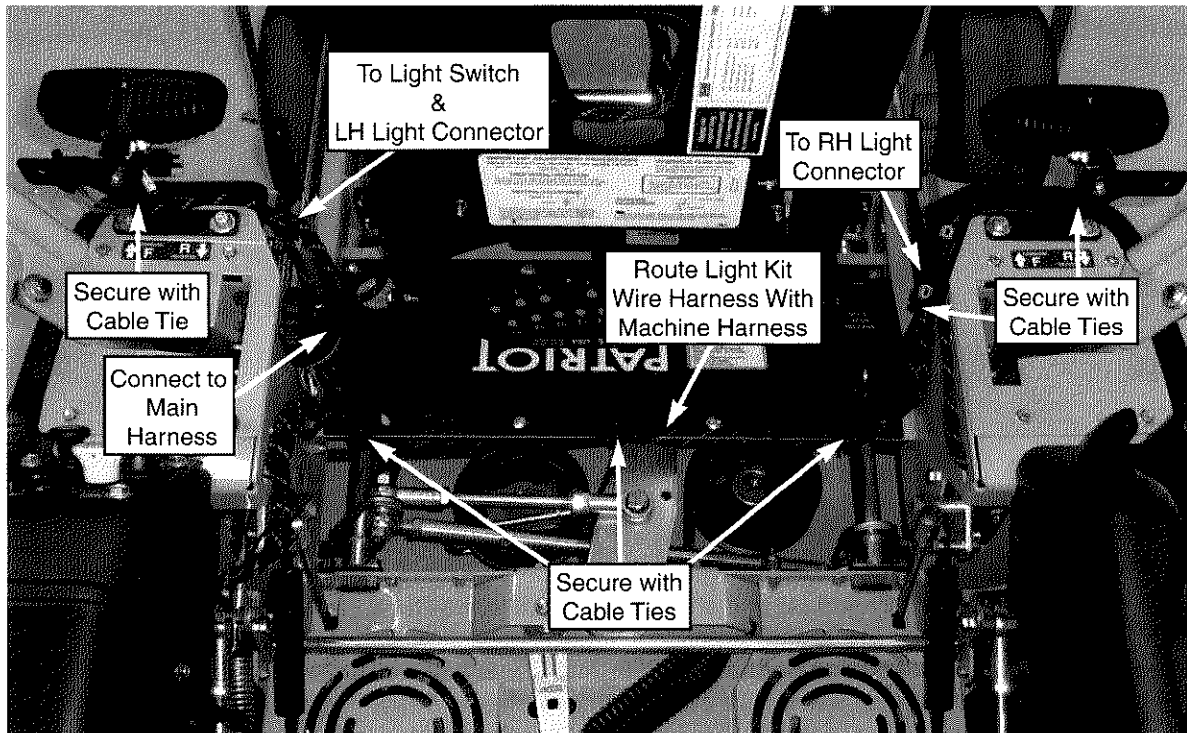

Figure 7. Route & Secure Wire Harness
8. Route the wire harness and secure using the cable ties provided with this kit as shown. See Figure 7.
11. Connect the light kit wire harness to the machine main wire harness. See Figure 7.